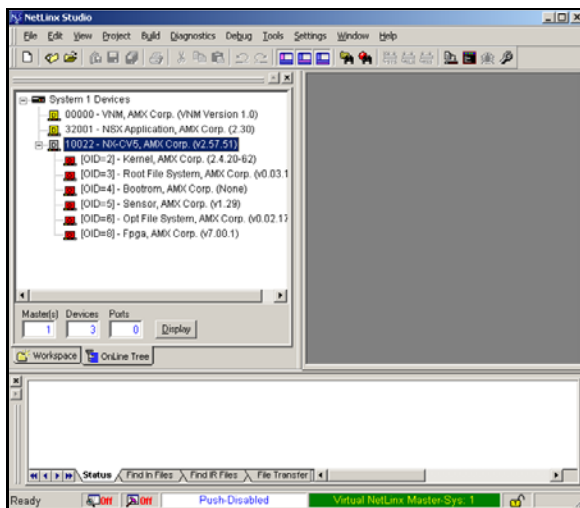

FIG. 38 Using USB for Virtual Master communication
4. Right-click on the System entry (A in FIG. 38) and select **Refresh System**. This causes a refresh of all project systems, establishes a new connection to the Virtual Master, and populates the System list with devices on your particular system.